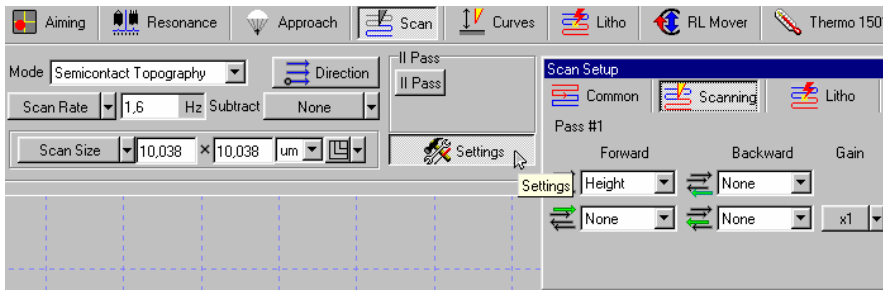

Fig. 4-48
- Open the measuring channels panel (Fig. 4-48) using “**Setting**” button on the scanning control panel;